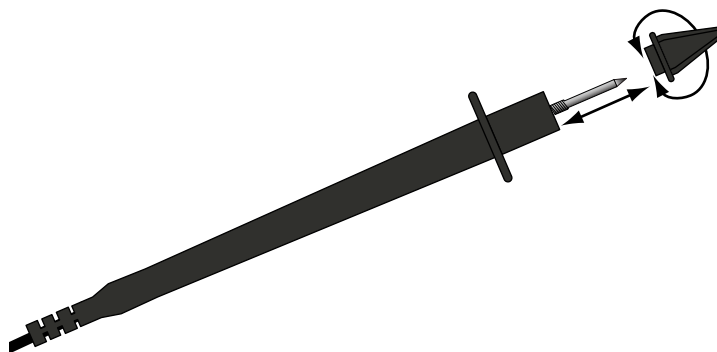

Figure 3-4 Probe collar
1. Remove the collar from the probe by threading it counterclockwise off of the tip (Figure 3-4). Store the collar in a safe place while not in use.